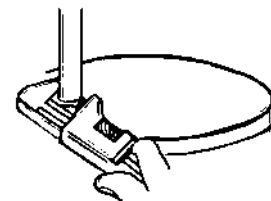

FIGURE 4.
- b. If you have galvanized pipe to the water heater, loosen the two galvanized pipes with a pipe wrench at the union in each line. See Figure 4. Also disconnect the piping remaining to the water heater. These pieces should be saved since they may be needed when reconnecting the new water heater. Disconnect the temperature-pressure relief valve drain line. When the water heater is drained, disconnect the hose from the drain valve. Close the drain valve. The water heater is now completely disconnected and ready to be removed.